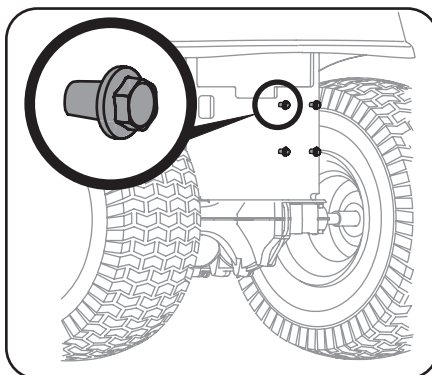

Figure 4-2
1. Install the 4 shoulder screws (738-05243) into the screw holes located on the rear of the tractor frame as shown in Figure 4-2.